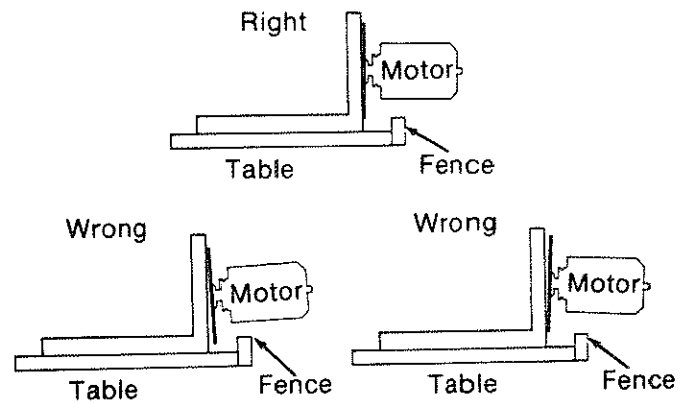

Fig. 65
5. If the square is flush with the *blade* after each rotation (Figure 65) go to step 11, or
If there is a gap between the square and the *blade* after any rotation (Figure 65), go to step 6.